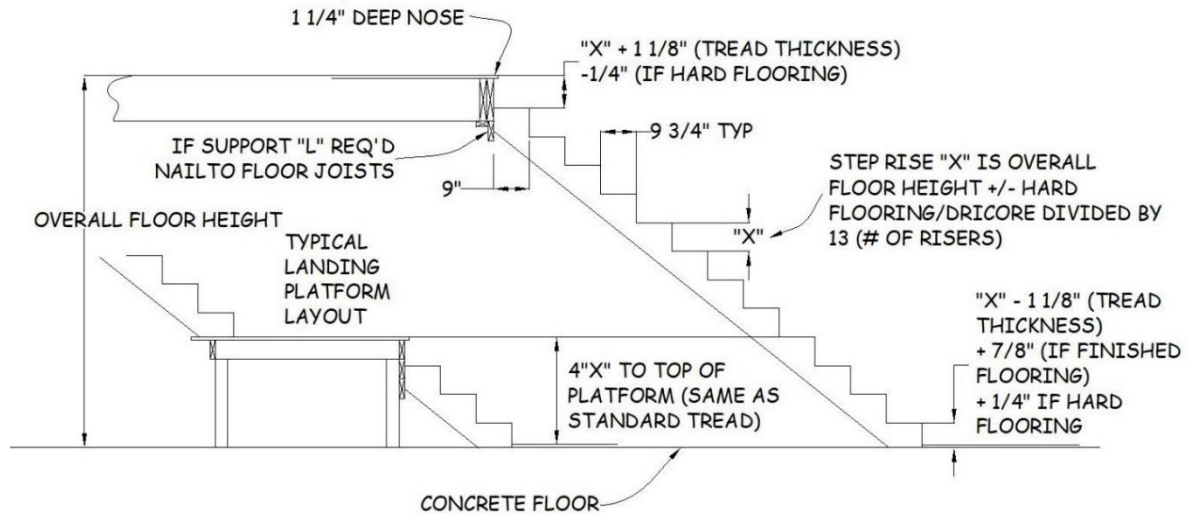

Figure 4-4. Stair Stringer Installation.
4. Reduce the height of the last riser at the bottom of the stringer by $1\frac{1}{8}$ " (the thickness of the tread), unless the basement floor is to be finished. If the basement floor is to be finished, reduce the height of the riser by only $\frac{1}{4}$ ". This will accommodate the $1\frac{1}{8}$ " thickness of the tread and the $\frac{7}{8}$ " thickness of the DRICore (see Figure 4-4).
12. Use the last calculation in Figure 4-2 (Top Step Rise) and measure that distance down from the underside of the deck. Make a line on the stairwell framing at this point. This line marks the location of the tops of the three stringers (Figure 4-4).
1. A landing, if required, is a “joist” box made of 2x6’s covered with ¾” floor decking with floor joists installed on 16” centers (see Figure 4-4).